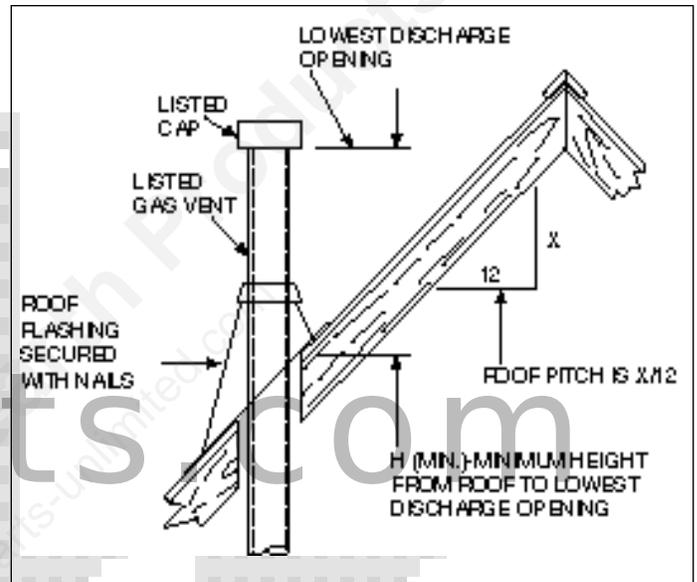

Figure 7
d. Chase/Termination Installation. *Figure 7* and *Table 1* specify minimum vent heights for various pitched roofs. Vent sections may have to be cut to a certain length.